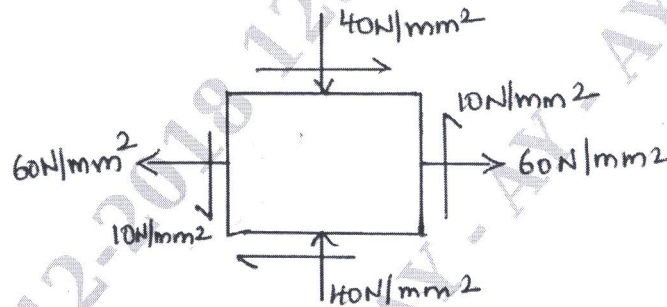

Fig.Q3(b)
- b. A plane element is subjected to stresses as shown in Fig.Q3(b). Determine principal stress, maximum shear stress, their planes and normal stress on maximum shear plane. Sketch the planes. (12 Marks)